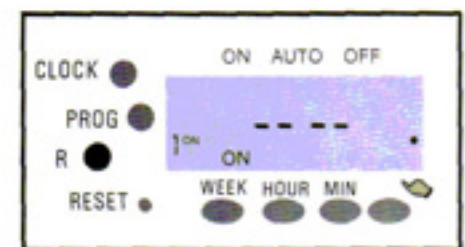

Figure 11
- 2.13 Press **CLOCK** to exit program mode. Please make sure that all other unused program settings are cleared by pressing "R" (See Figure 11) When no days, hours and minutes are displayed then the timer is not programmed to work in "AUTO" mode.